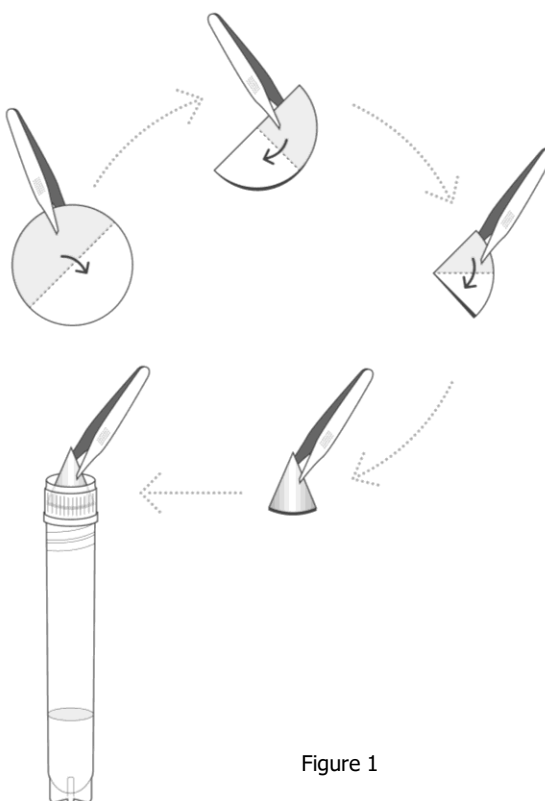

Figure 1
1. Using the sterile tweezers fold the filter in two, three times in order to obtain a cone, as shown in Figure 1.
*Note: the membrane filter must be insert in the vial with the point of the cone oriented to the top of Cryotube™ vial (Figure 1).*